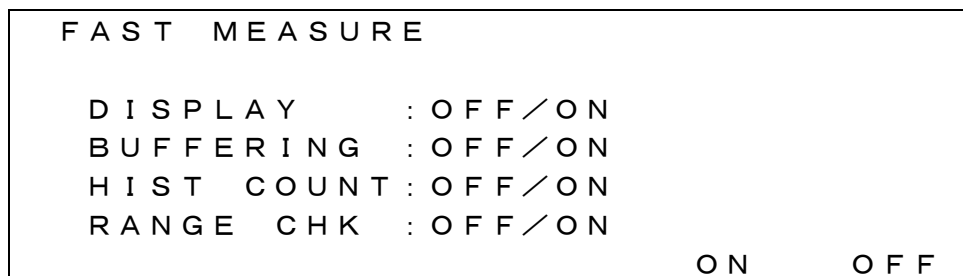

Fig. 5.16 High-speed Measurement Setting Screen
- (1) Press the [F4] FAST (FAST) key on the Operating Environment Setting screen. The screen will change to the Current Limit Value Setting screen for high-speed measurement. (See Fig. 5.16) This screen is contained in the Current Limit Value Setting screen of the measuring voltage source.